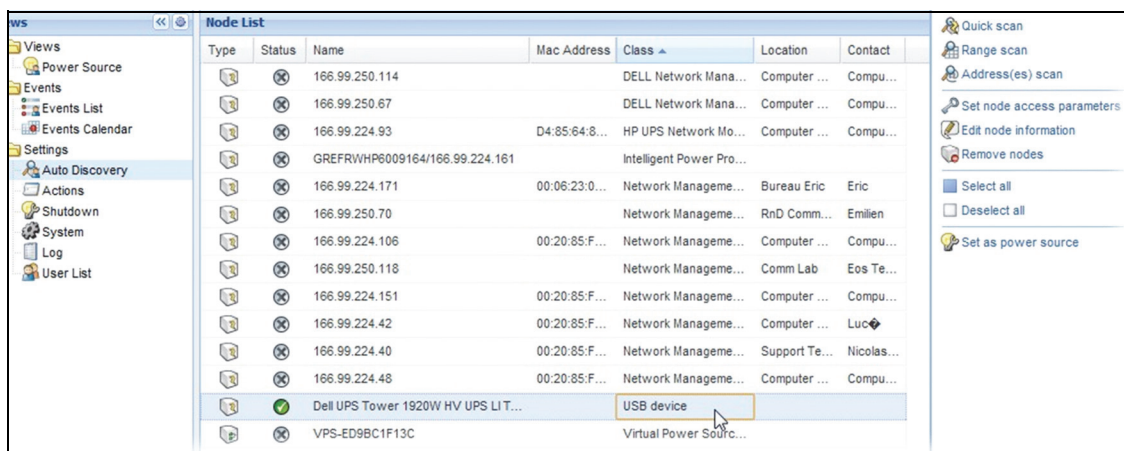

Figure 13. Dell ULNM UPS Discovery
- 3 The first discovered UPS connected through RS-232 or USB is automatically assigned as the Power Source. Identify the Power Source by the green status symbol , as shown in Figure 13.